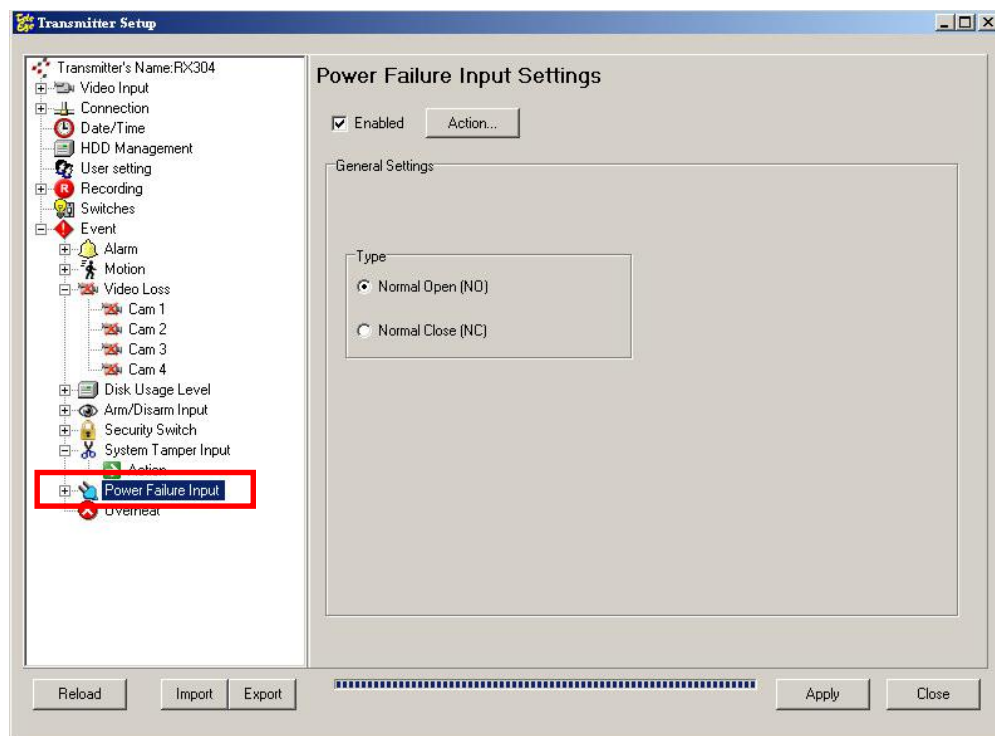

Fig 8.1.7a
Step 1 : In {**Transmitter Setup**} panel, click [**Event**] → [**Power Failure Input**] option to pop up {**Power Failure Input Setting**} panel as **Fig 8.1.7a**